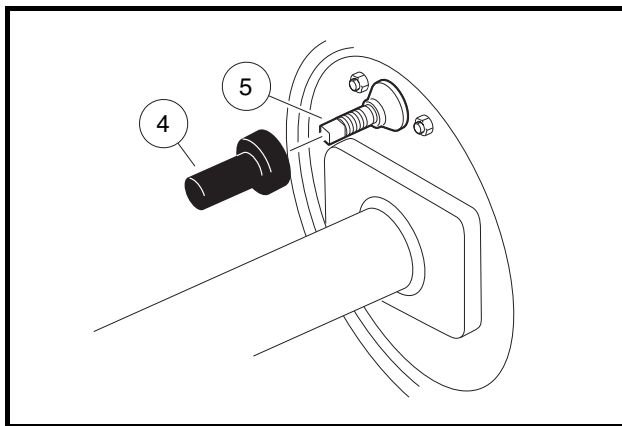
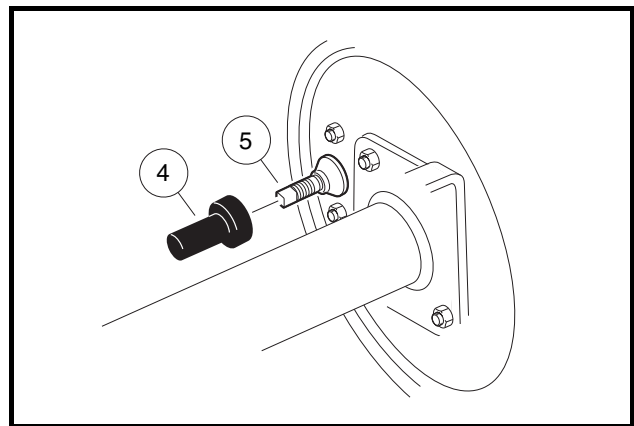

Figure 6-29 Rear Brake Adjustment Bolt
Figure 6-30 Front Brake Adjustment Bolt
3. Remove the dust cover (4) on the left and right rear brake cluster assemblies (**Figure 6-29, Page 6-13**).
3. Install the rubber dust covers (4) over the brake adjustment bolts (5) (**Figure 6-29, Page 6-13 and Figure 6-30, Page 6-13**).